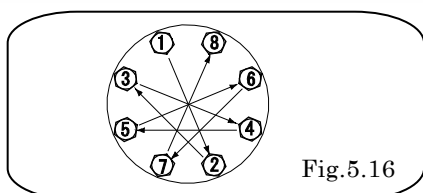

Fig.5.16
- Tighten the bolts gradually in a diagonal sequence with even torque. [Fig.5.16]